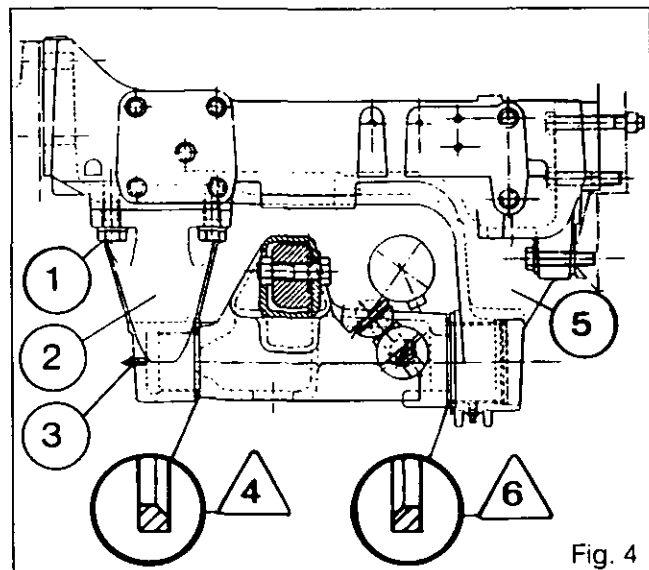

Fig. 4
92. Remove the screws (1) and the grease nipple (3). Remove the front bearing (2) and the washer (4) (Fig. 4).
93. Remove the front axle, disengaging it from its rear bearing (5) with the washer (6) (Fig. 4).
94. Remove the lock nut (60) and the nut (59) with its seal (58), remove the support (54). The bush (55), the thrust washer (56) and the o-ring (57) remain on the support (54).
95. If necessary, withdraw the bushes (61) from the axle.
101. Hoist the axle. Position the washer (6) (the chamfer facing the axle side, Fig. 4). Fit the axle in the support (5).
102. Position the washer (4) (the chamfer facing the axle side, Fig. 4). Mount the front bearing (2) so as to eliminate play between the washers and the axle as far as possible.
104. Fit the grease nipple (3) (Fig. 4).
106. Grease the bearings (2) and (5) (Fig. 4) and the ram support (54).